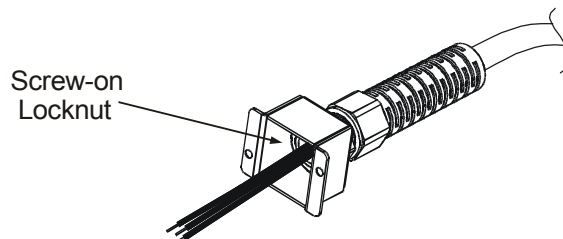

Fig.3-2: Stripped Wires installed in Strain Relief
3. Slide the helix-shaped body onto the AC cable. Insert the stripped wires through the strain relief base until the outer cable jacket is flush with the edge of the base. Tighten (16-18 Lb-inch.) the body to the base while holding the cable in place. Now the cable is securely fastened inside the strain relief. Refer to Fig. 3-2.